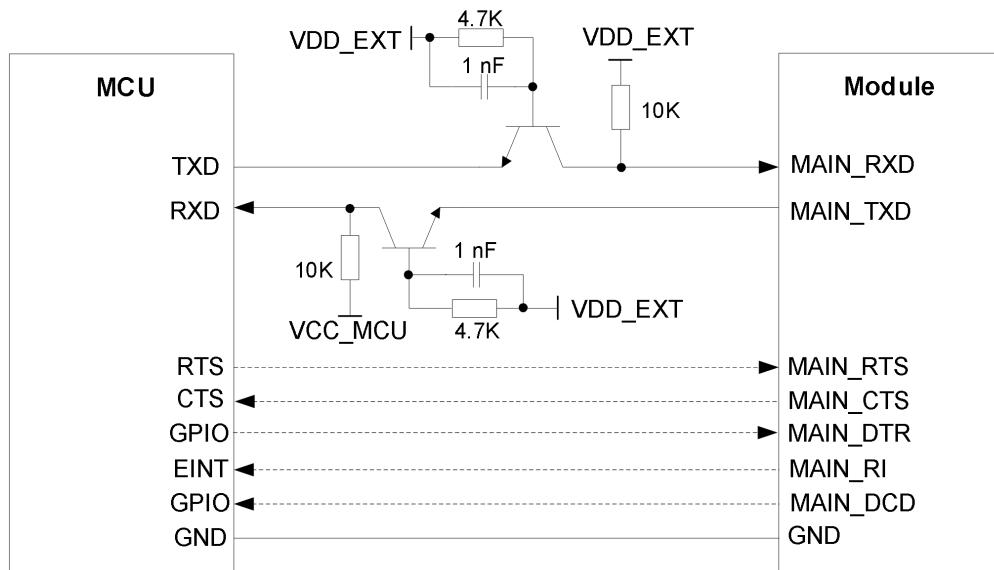

Figure 22: Reference Design of UART with Transistor Circuit (Main UART)
3. The level-shifting circuits (**Figure 21** and **Figure 22**) take the main UART as an example. The circuits of the debug UART are connected in the same way as the main UART.